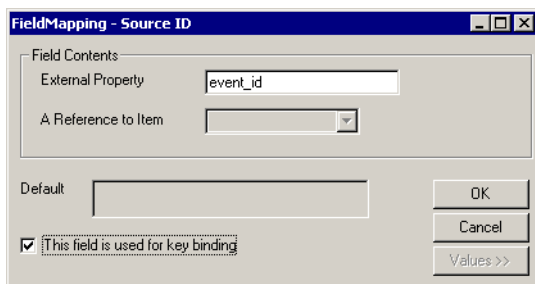

Figure 28: Field Mapping - Source ID Window
11. Double-click on the entry which has a field value of **Source ID**. The Field Mapping-Source ID window opens as shown in Figure 28.